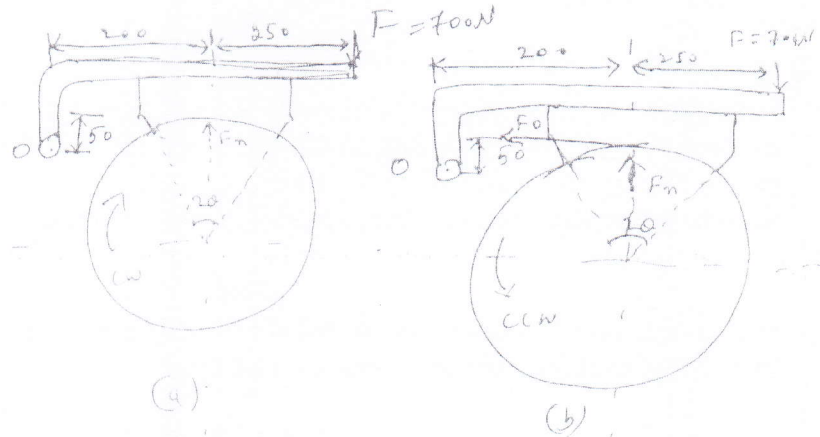

Fig. Q2 (b)
- b. A single block brake shown in Fig. Q2 (b). The drum diameter is 250 mm. The contact angle is 90° . If an operating force of 700 N is applied at the end of the lever and the co-efficient of friction is 0.35 determine the torque that may be substained by the brake. (10 Marks)